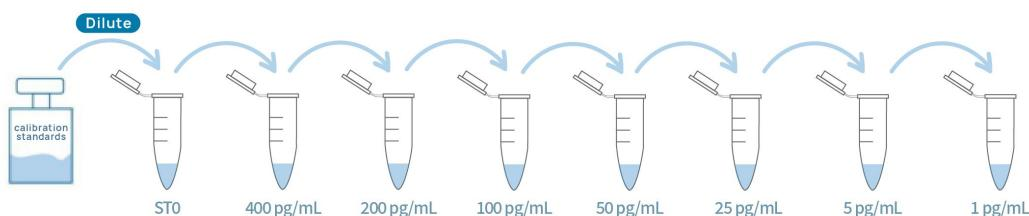

Figure 3. Graphic scheme of Calibration Standard Solutions preparation
(2) Preparation of Reagents
(3) Preparation of Calibration Standard Solutions
- Prepare Calibration Standard Solutions as indicated in Fig 3 and Table 3.